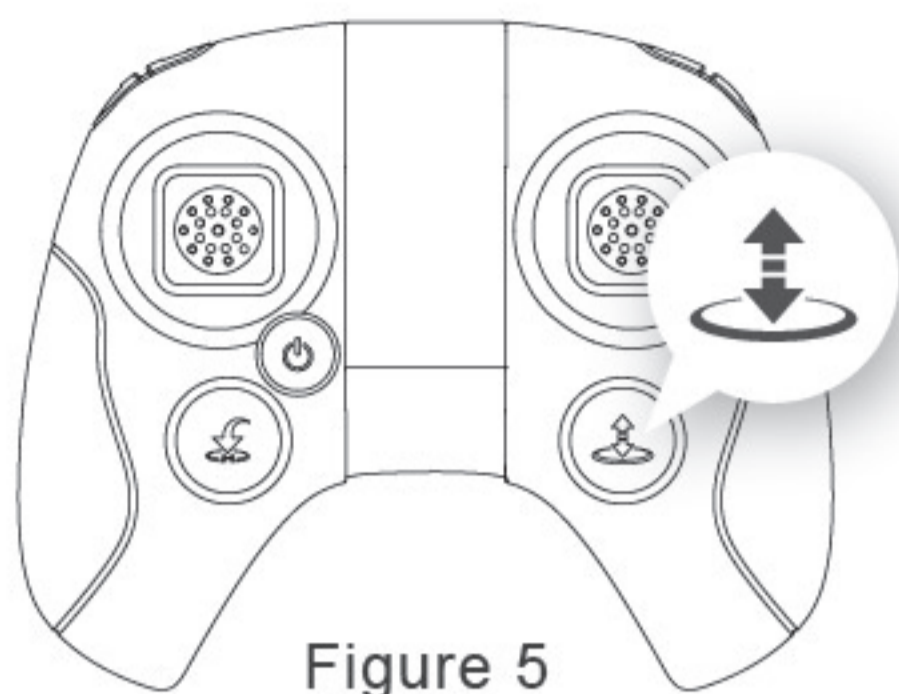

Figure 5
2) Press the Auto Land button and the aircraft will slowly descend to the ground. (Figure 5)